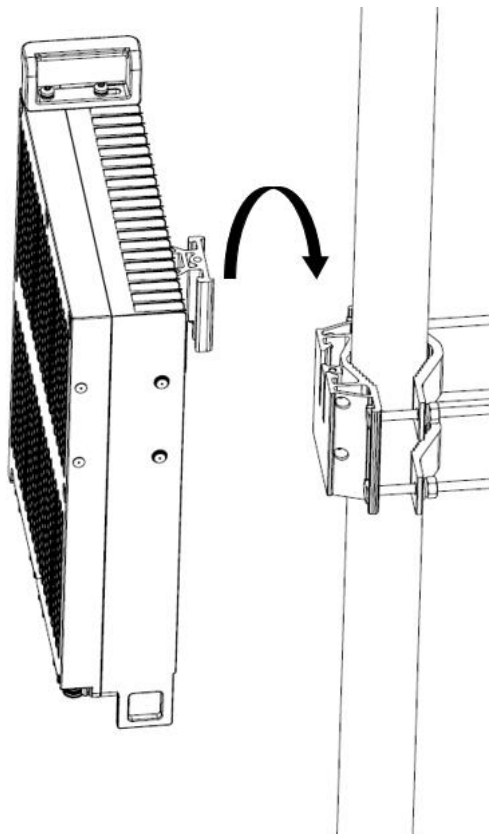
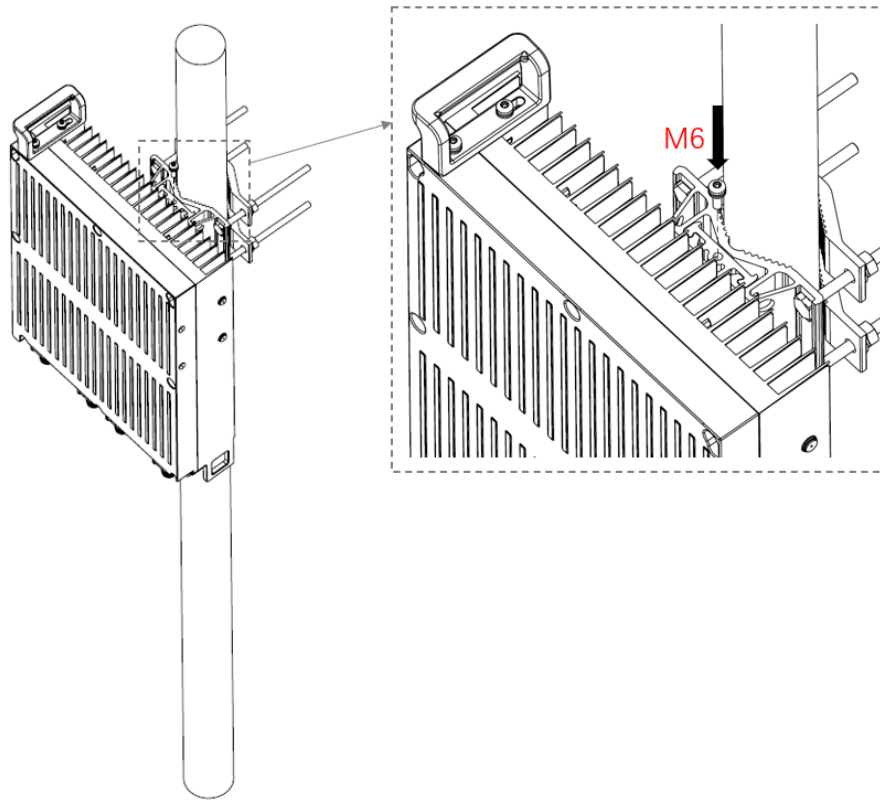

Figure 3-21 Installing the ORRU onto the Pole
Figure 3-22 Tighten the M6 screw onto the bracket
Step 3: Install the ORRU onto the Pole and tighten the M6 screws as shown in Figure 3-21 and Figure 3-22.